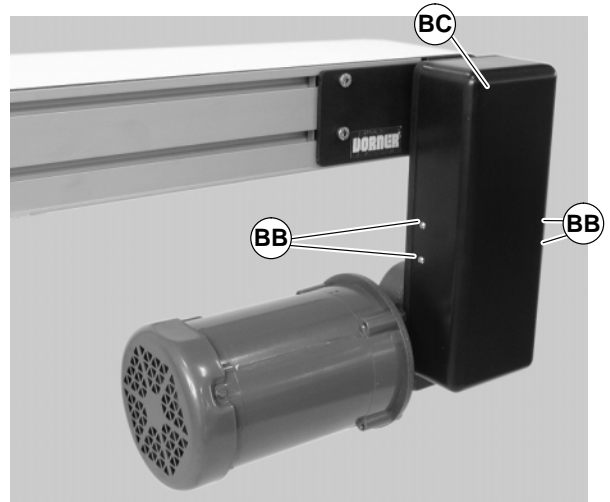

Figure 40
- 2) Remove four (4) screws (BB of Figure 40) and remove cover (BC).